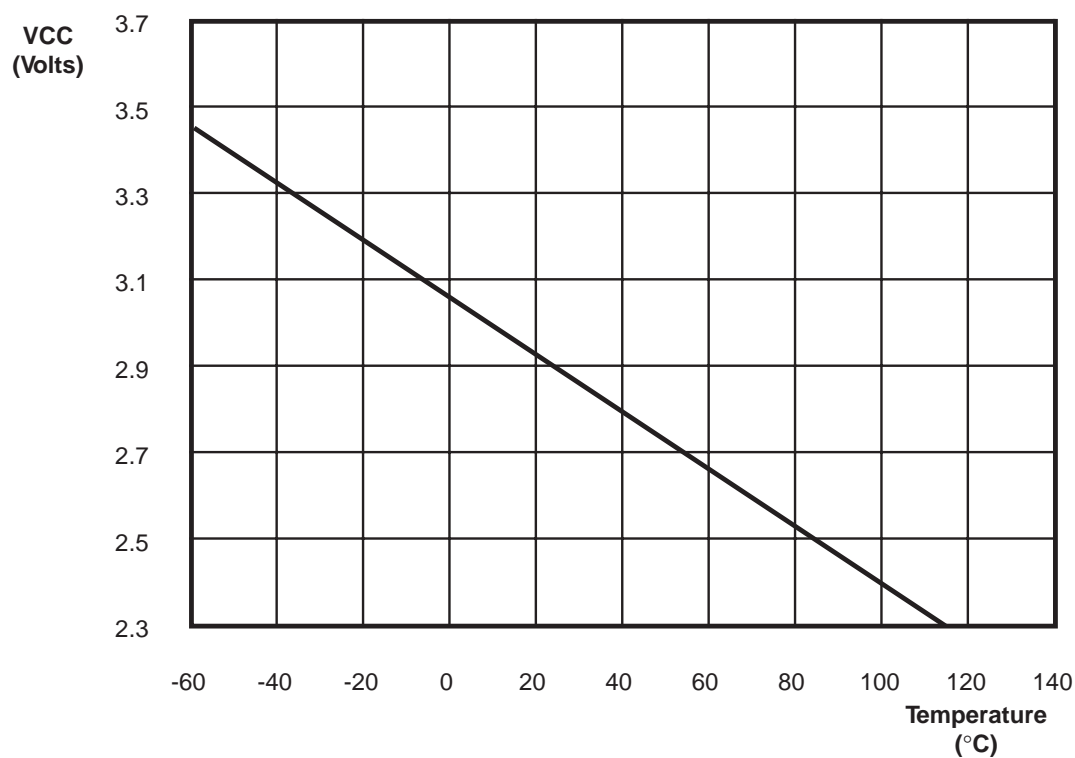

Figure 35. Typical Z86E40  $V_{LV}$  Voltage vs. Temperature
**Auto Reset Voltage.** An on-board Voltage Comparator checks that  $V_{CC}$  is at the required level to ensure correct operation of the device. Reset is globally driven if  $V_{CC}$  is below  $V_{LV}$  (Figure 35).